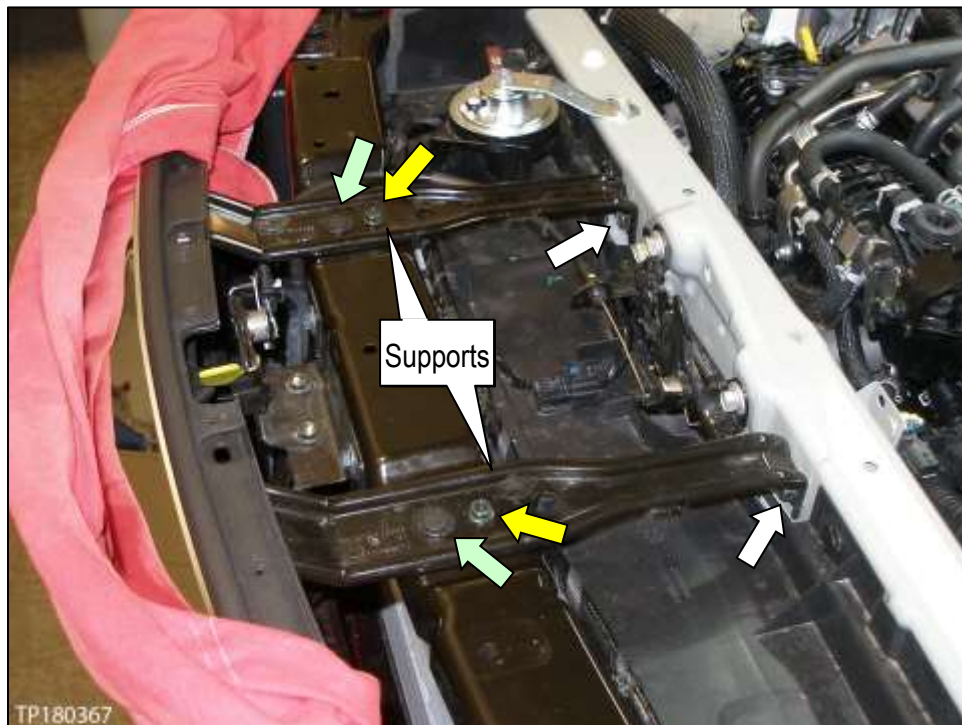

Figure 80
- Tighten/torque the bolts and fasten the clips – Green Arrows (see arrows in Figure 80).